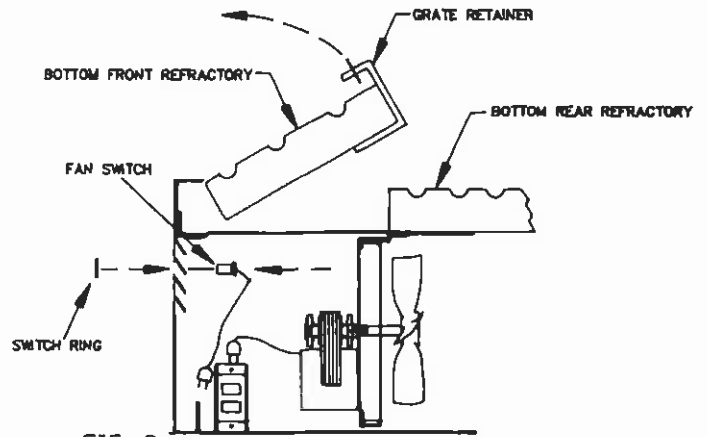

FIG. 2
- 7) Install switch. (SEE FIG. 2)